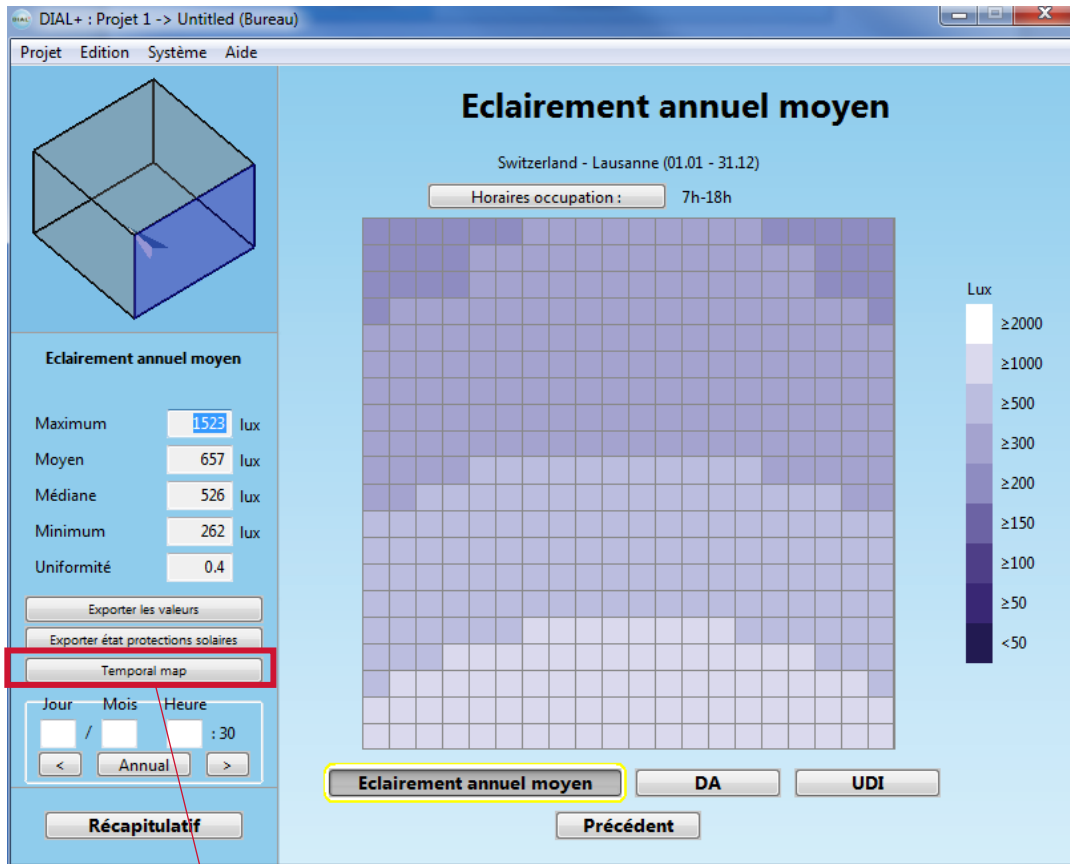
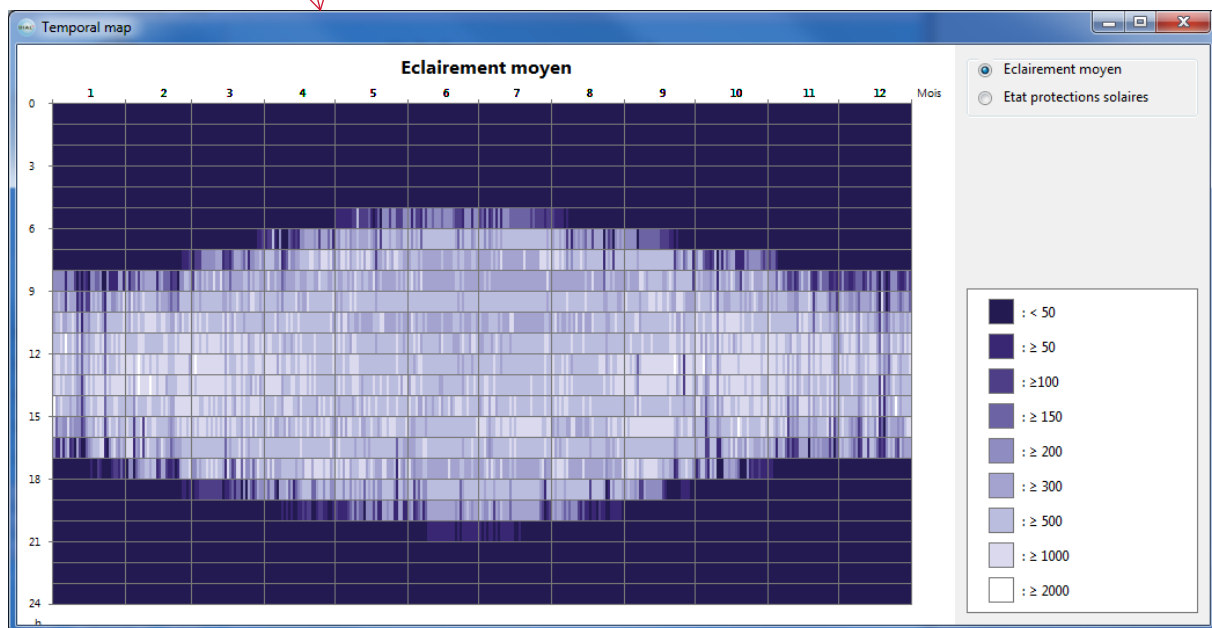

Fig. 7: Visualising average annual lighting levels in the room
Fig. 8: Visualising average annual lighting levels
- The **lighting levels** in the centre of the room, on average for a year, or even a specific time of the year (to define on the left, see Figure 7). The average room lighting levels can also be viewed in the form of a temporal map by clicking “Temporal map”, as shown in Figure 8.